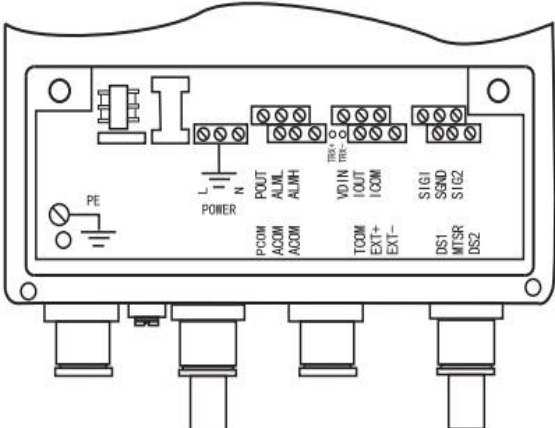

Figure 8. Terminal Connection Diagram for Square Flowmeter
7.2 Converter terminals and signs, see Figure 8 and 9